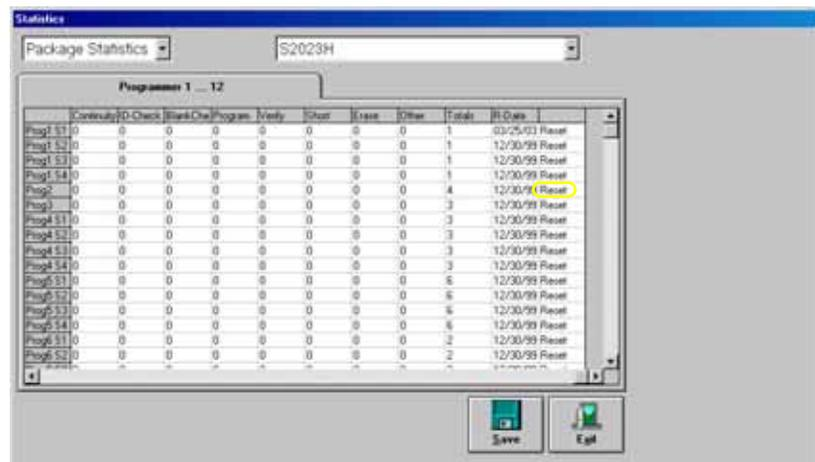

Figure 3-89—Resetting statistics for Prog2
- 3a) Click **Reset** in the right-most column corresponding to the programmer on which the adapter or socket was replaced (Prog2 in the example shown in Figure 3-89).